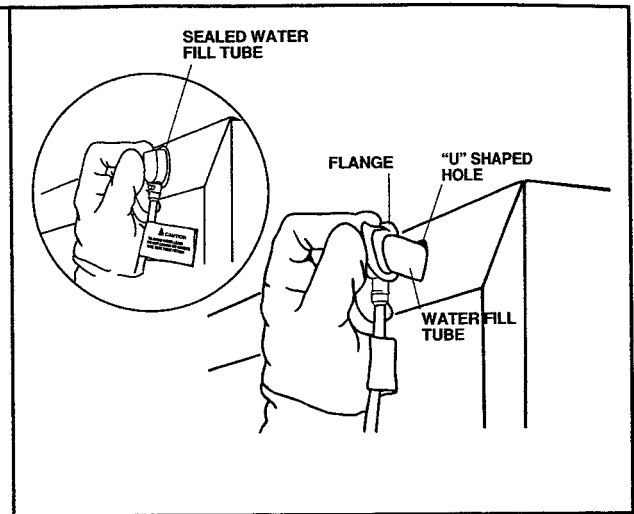

Figure 12
- b. Push gently on the water fill tube while twisting it slightly, until the flange is firmly seated inside the "U"-shaped hole on the exterior rear of the cabinet. See Figure 12.
- c. Check the exterior rear cabinet to be sure the water fill tube is completely sealed. See Figure 12.